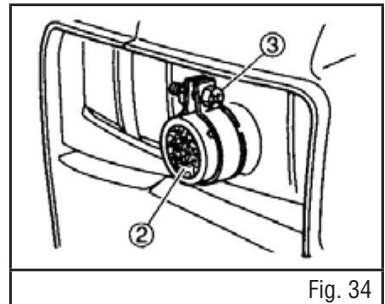

Fig. 34
3. Use a flathead screwdriver to loosen the muffler screen clamp. Then use the screwdriver to pry the muffle screen off. See figure 34